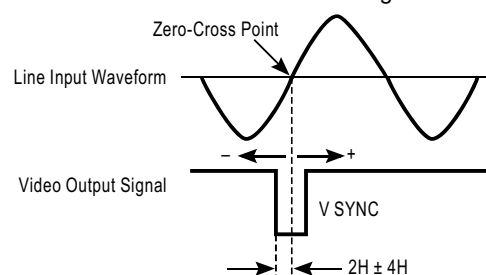

Fig. 4-3
- Adjust data with the **ARROW** keys so that the Line Lock Phase becomes 2 H $\pm$ 4 H as shown in Fig. 4-3.